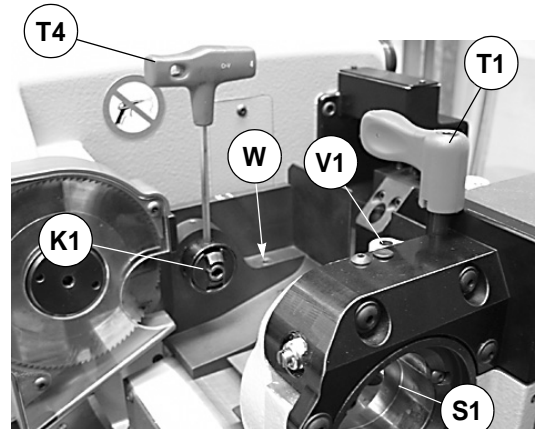

Fig. 61
Note: before starting any operation for keys with rear stops the K1 tailstock must be removed. Simply loosen the screw (W) with the wrench (T4) (fig. 61) and push the K1 tailstock to the left in order to remove it from its seat.